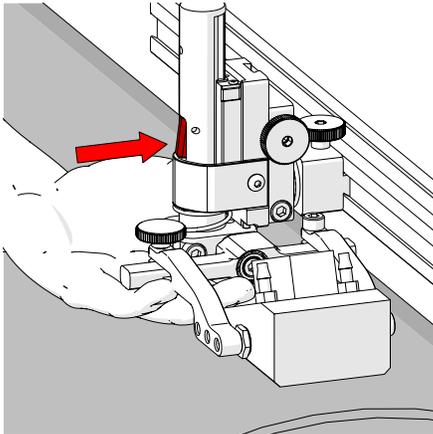
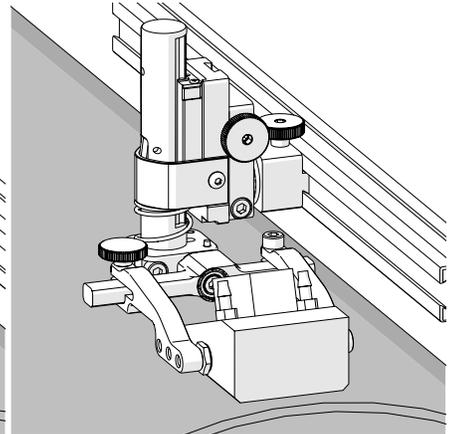

Fig. 51 - Press latch button
Fig. 52 - Lower toward scan surface
4. Lift the yoke slightly and press the latch button (Fig. 51), then slowly lower towards scanning surface to apply spring pressure to the wedge (Fig. 52).